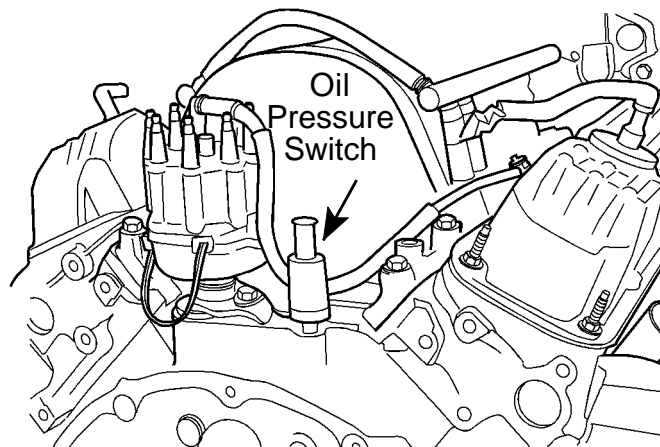

FIGURE 12
- F. Cut the ignition wire convolute p/n 04364375 into three lengths. Two (2) at 101.5 mm (4 in.), and one (1) at 82.5 mm (3.25 in.).
- H. Route the distributor end of the coil wire down and behind the intake manifold, in front of the oil pressure switch (Figure 12).